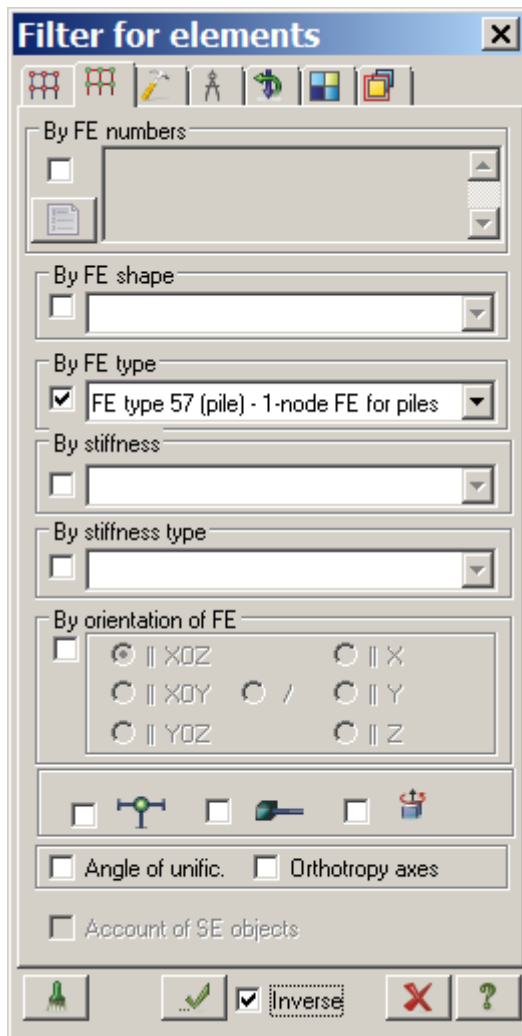

Figure 22.11 Filter for elements dialog box
- ⇒ On the **Filter for elements** tab (see Fig.22.11), select **By FE type** check box and select **FE type 57(pile)** option in the list.